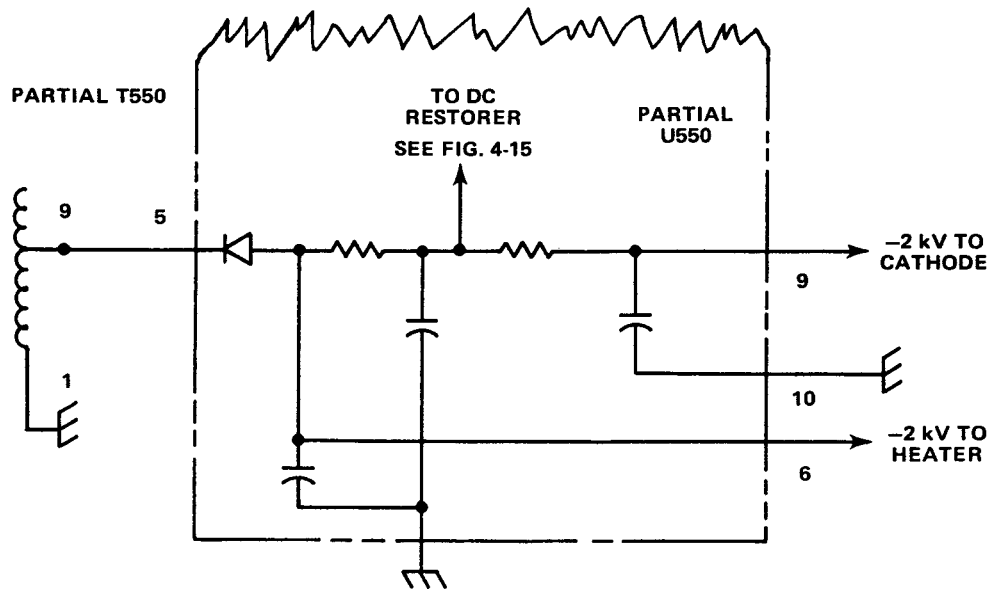

Figure 4-14. High voltage rectifier.
**(c) High Voltage Rectifier.** Figure 4-14 shows a simplified diagram of the high voltage rectifier. Figure FO-9 shows the high voltage rectifier and associated circuitry.